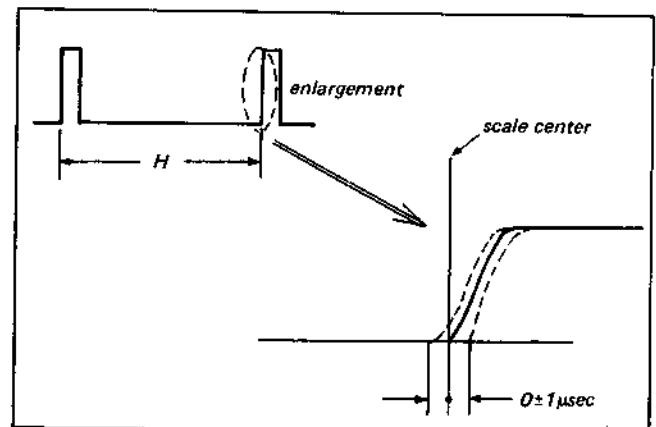

Fig. 4-3-7. Picture search free speed adjustment
- (1) Record a video signal.
- (2) Play back the recorded segment.
- (3) Connect the oscilloscope to pin 10 of IC5 on the YC-6 board.
- (4) Position the positive-going edge of the waveform at the exact center of the oscilloscope scale. (See Fig. 4-3-7.)